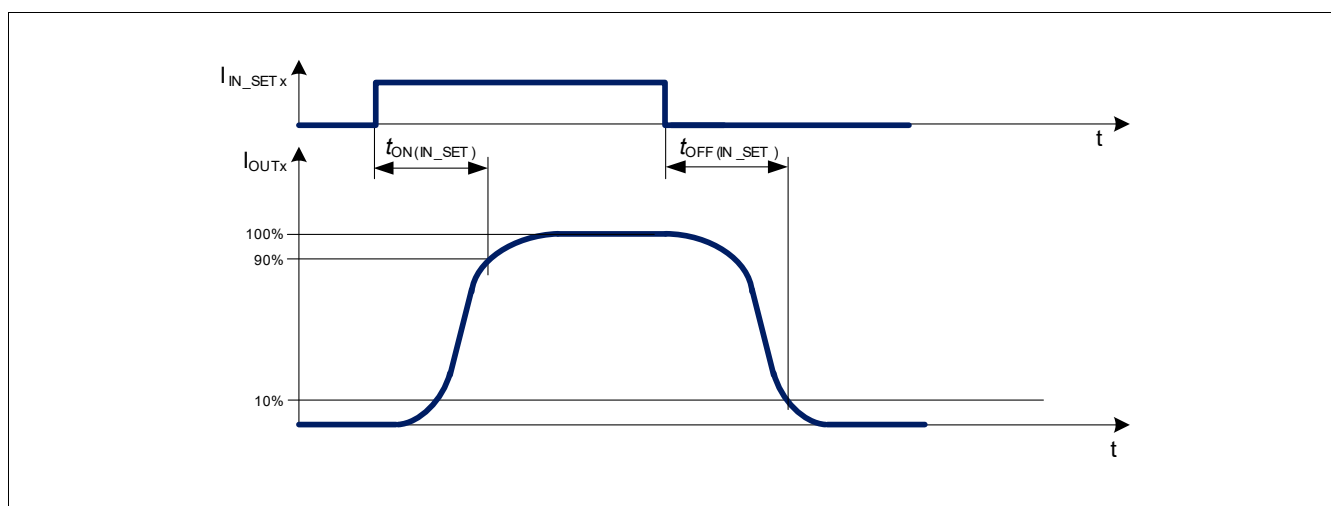
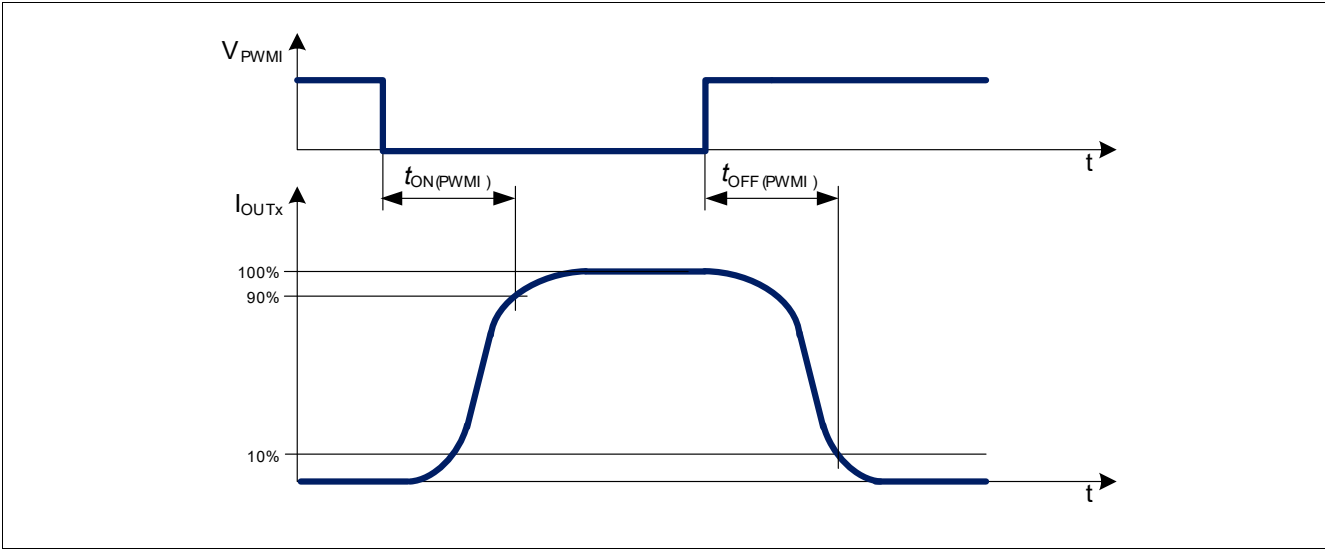

Figure 10 IN_SET turn on and turn off delay timing diagram
Figure 11 PWMI turn on and turn off timing diagram
In the following diagrams (Figure 10, Figure 11) the influences of different driving inputs on output activation delays are shown.
- 2) Refer to Figure 10.
- 3) Refer to Figure 11.